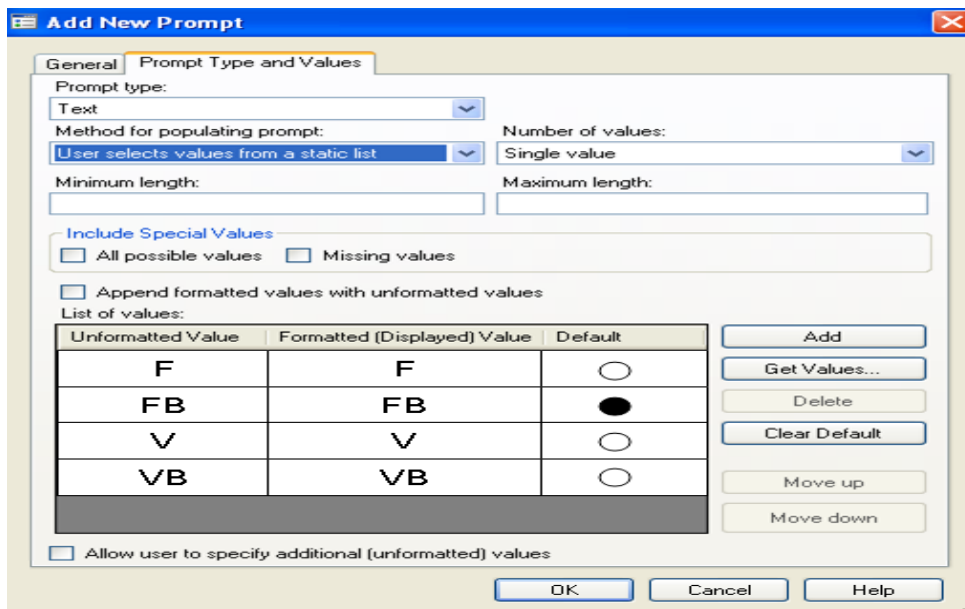

Figure 10: Default for record format
We will do the record format much the same way, since the four basic types, fixed, variable, fixed block, and variable block should suffice for the vast majority of our file transfers. The prompt will be named RECFM, displayed as 'Select Record Format:' at run-time. We will make fixed block (FB) the default (Figure 10)